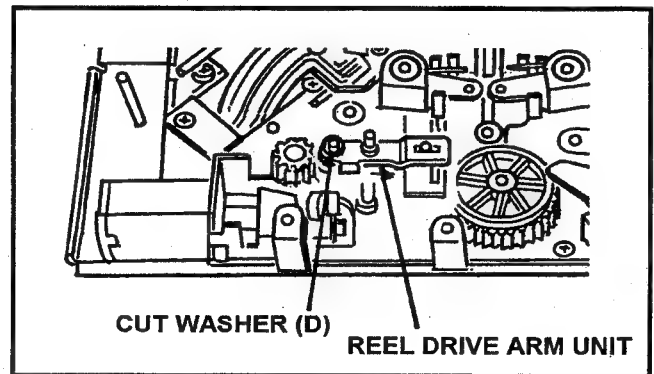

Fig. 6-22-2 Removal of Reel Drive Arm Unit
8. Remove the Cut Washer (D) and remove the Reel Drive Arm Unit as shown in Fig. 6-22-2.
9. Remove the Supply and Take Up Reel Rotor Unit (Refer to item 6-3-1).
10. Remove the 2 Cut Washers (E) and remove the Supply and Take Up Base Drive Arm Unit.
11. Remove the 2 Cut Washers (F) and remove the Slide Rod Unit.